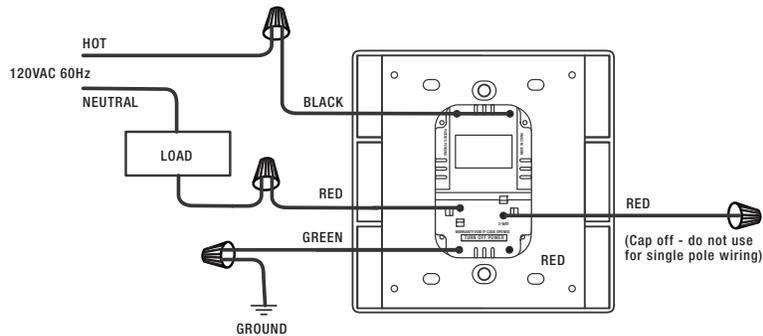

Fig. 5: Single Pole Wiring
4a. Single Pole Circuit: Wiring one ADMLV-1603 (Fig. 5)
- Connect the lamp power (LOAD) to the appropriate red wire on the dimmer (See Fig. 5).